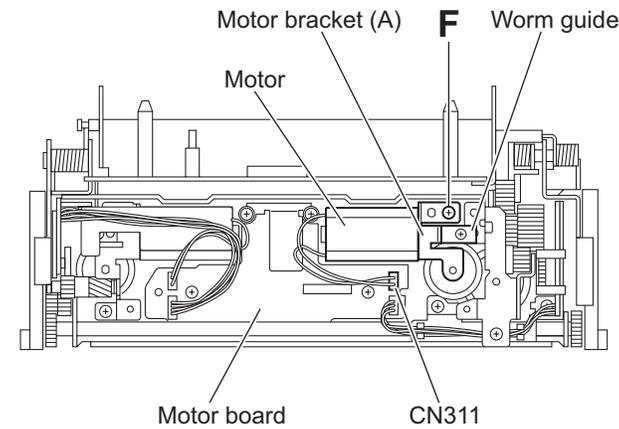

Fig.12
### 3.2.5 Removing the worm gear, motor bracket (A) and third worm (See Figs.12 to 16)
- (1) Disconnect the wire from the connector CN311 on the motor board. (See Fig.12.)
- (2) Remove the screw **F** attaching the motor bracket (A). (See Fig.12.)
- (3) Take out the motor bracket (A), worm guide and motor together. (See Fig.12.)